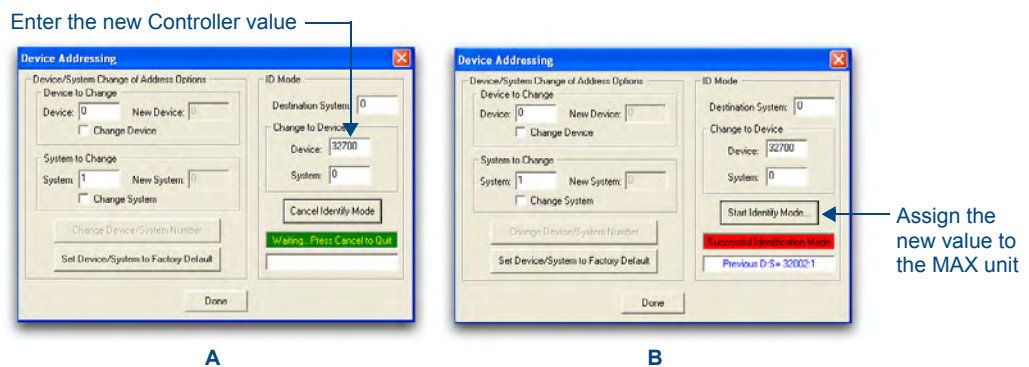

FIG. 37 Device Addressing dialog (using the ID mode to set the MAX device value)
1. Access the Device Addressing dialog (FIG. 37) by selecting **Diagnostics > Device Addressing** from NetLinx Studio's main menu.
2. Locate the *Device* field (A in FIG. 37) and enter the new value for the MAX unit.